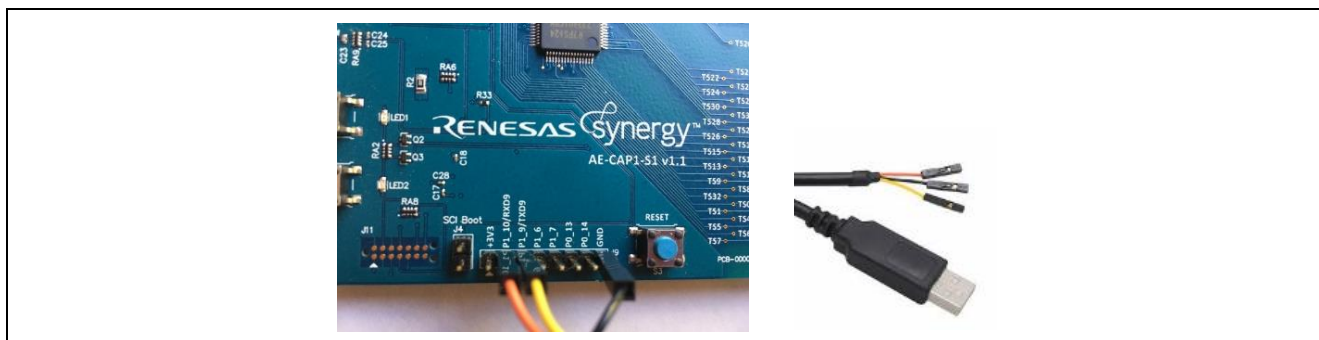

Figure 31. Serial Connection
4. Connect AE-CAP1-S124 J9 through a Serial-to-USB converter, as shown in Figure 31 to PC. **The Serial-to-USB conversion cable is not included in the kit.**